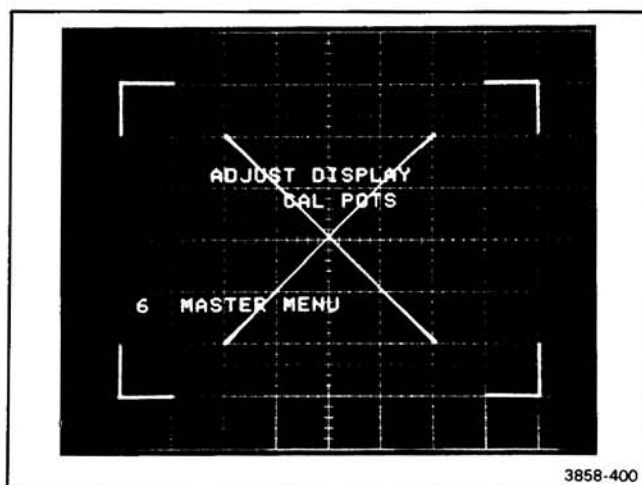

Figure 4-1. Display adjust pattern.
- While observing the adjustment pattern displayed on the oscilloscope mainframe crt, set VERT GAIN, VERT CTR, HORIZ GAIN and HORIZ CTR adjustments to place the corner markers of the displayed adjustment pattern on the center 6 × 8 divisions of graticule, as shown in Figure 4-1.
- Set VECT LIN adjustment for minimum trace separation of the diagonal lines on the displayed adjustment pattern as shown in Figure 4-1.